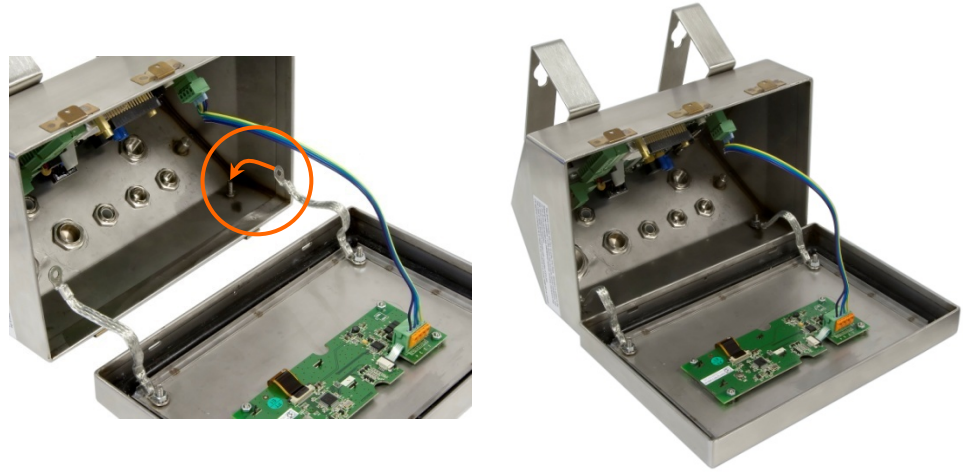

Figure 2-22: Reversing the Cover
- c. Carefully rotate the front cover 180 degrees and reattach the two grounding straps to the two studs near the grip bushings using the two nuts removed in the previous step as shown in Figure 2-22. Tighten the two nuts.